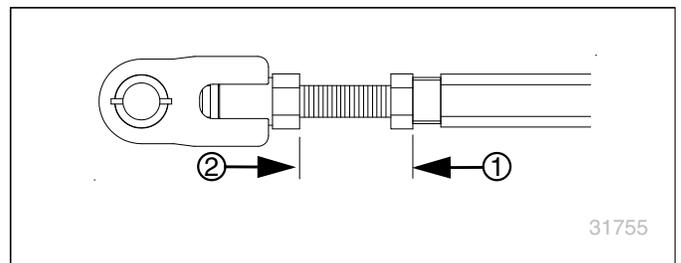

Figure 8
Refer to Figure 8
2. Measure from the inside face of the square nut ① to the inside face of the adjuster nut ② (see Figure 8). The factory setting is approximately 7.62cm (3in). Adjust it out 2.54cm (1in) to start with. The measurement from the face of the square nut to the face of the adjuster nut will now be 10.16cm (4in).